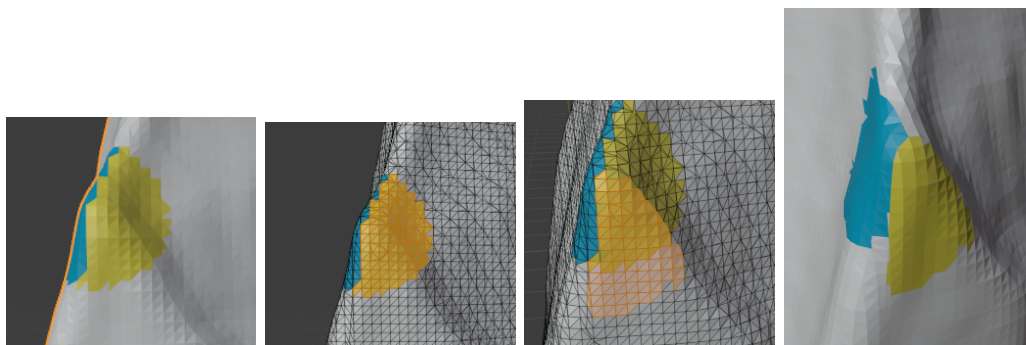

Figure 2: The process of using the Edit Side function to solve a strange segmentation.
- **Side 1/2 Editing:** These two buttons allow for the editing of Side 1/2 respectively illustrated by the colors shown at the beginning of the row. By clicking on one of the buttons, the respective side will be brought into "Edit-Mode" and individual faces can then be removed or added to the face included in the measurement. The faces highlighted in orange will be saved to the side. Using Ctrl-C will allow the user to get a circle select tool which adds to the region with Left-Mouse and removes from the region with Right-Mouse. When the user is done, they merely have push the same button again to confirm the changes to the side. An example of how this can be used is shown in Figure 2